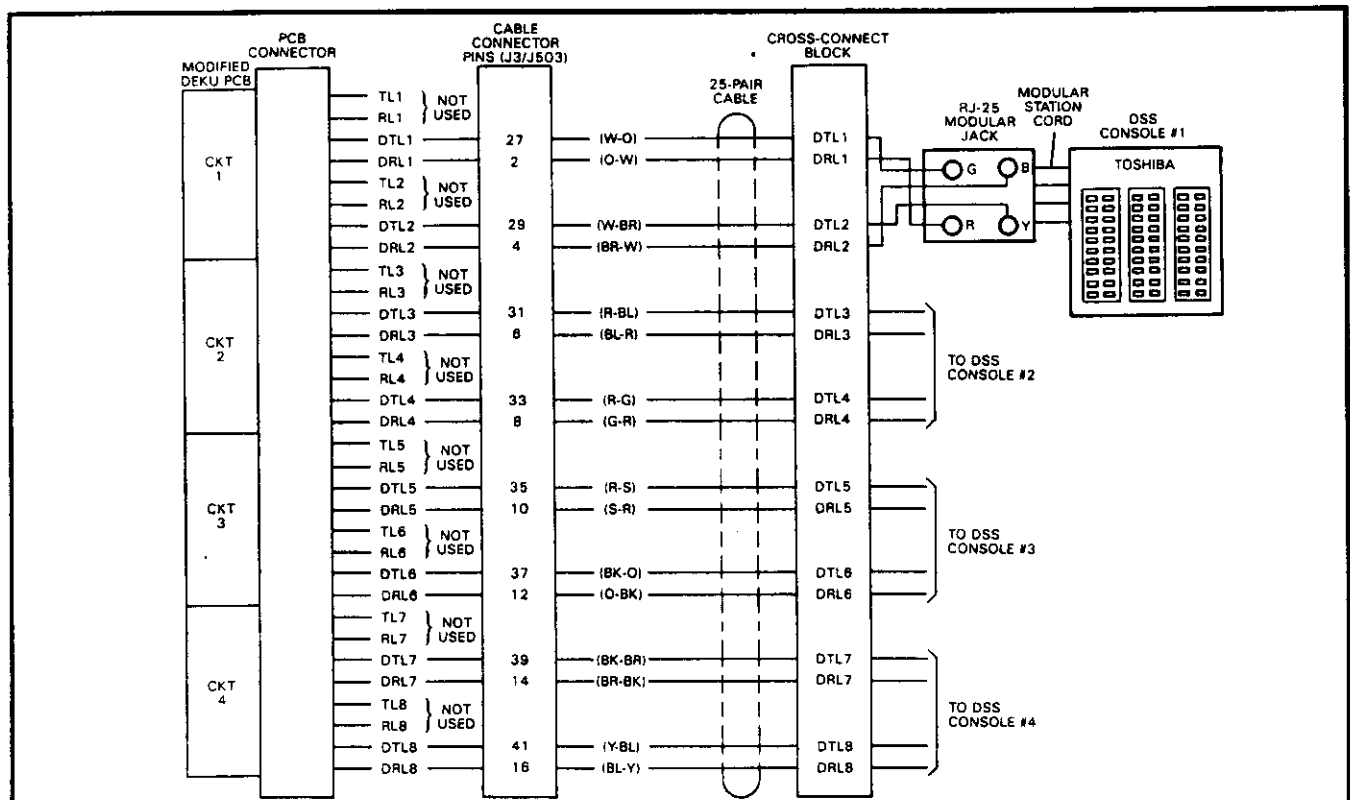

FIGURE 34—DSS CONSOLE CONNECTION
08.44 DSS Console connection details are shown in Figure 34.